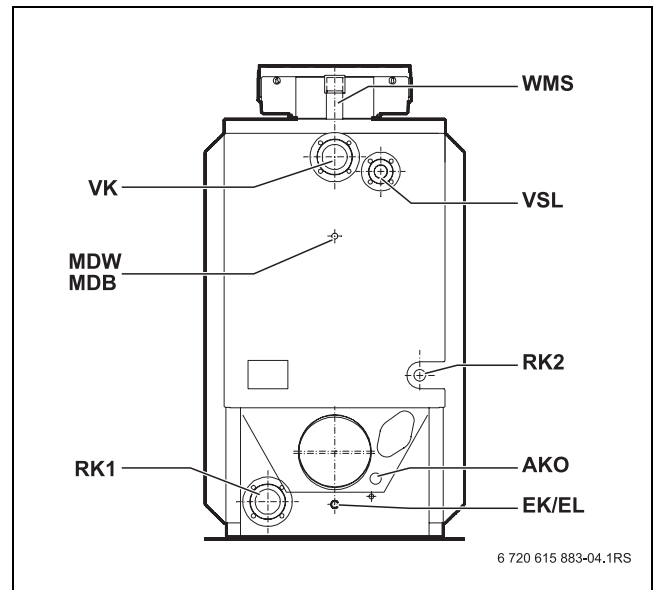

Fig. 5 Logano plus SB615 Gas boiler connections
- ▶ Connect the minimum pressure monitor or minimum pressure limiter (with R $\frac{1}{2}$  to R $\frac{1}{4}$  connection piece adapter) to the MDW/MDB connection on the boiler (→ Fig 5).
- ▶ Seal the flow pipe for the low water indicator into the 2" LWI connection on the boiler (→ Fig. 5).